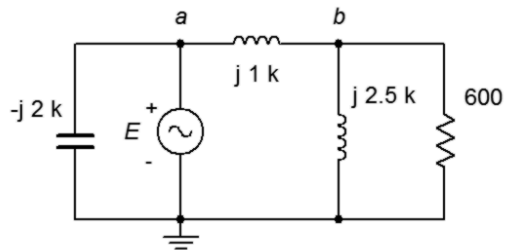

Figure 4.10
13. For the circuit of Figure 4.10, determine voltages v_{ab} and v_b if the source is 20 volts peak.
14. For the circuit of Figure 4.10, determine the source current and the current through each of the four components if the source is 20 volts peak.